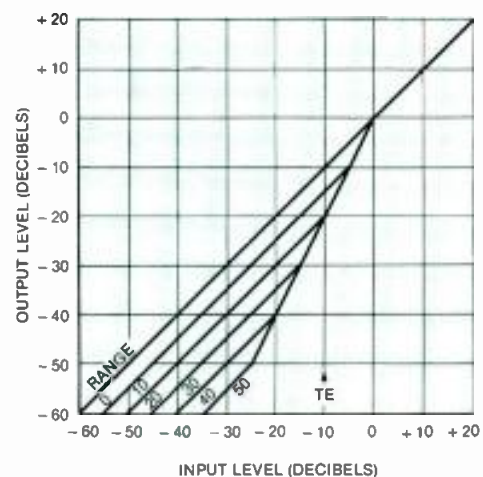

Figure 2. The effect of the range control on the transfer function is shown above. The slope is set to 1:2.
- A *range* control, sometimes called depth control, is provided on most gates and expanders. This adjustment presets the maximum amount of processor attenuation (reference threshold). Therefore, if the range control is set at 40dB, unwanted noise will be reduced by no more than a nominal 40dB below the threshold setting. (See Figure 2.)
the DA was often viewed as just one more piece of equipment that was as likely to fail as any of the downstream devices. Some engineers thought it didn't make sense to use DAs when resistor build-outs (such as that shown in Figure 2) would work just as well.
**Figure 2.** Passive isolation helps prevent failures from propagating through the system. Unfortunately, the signal loss through the resistors decreases the system's S/N.